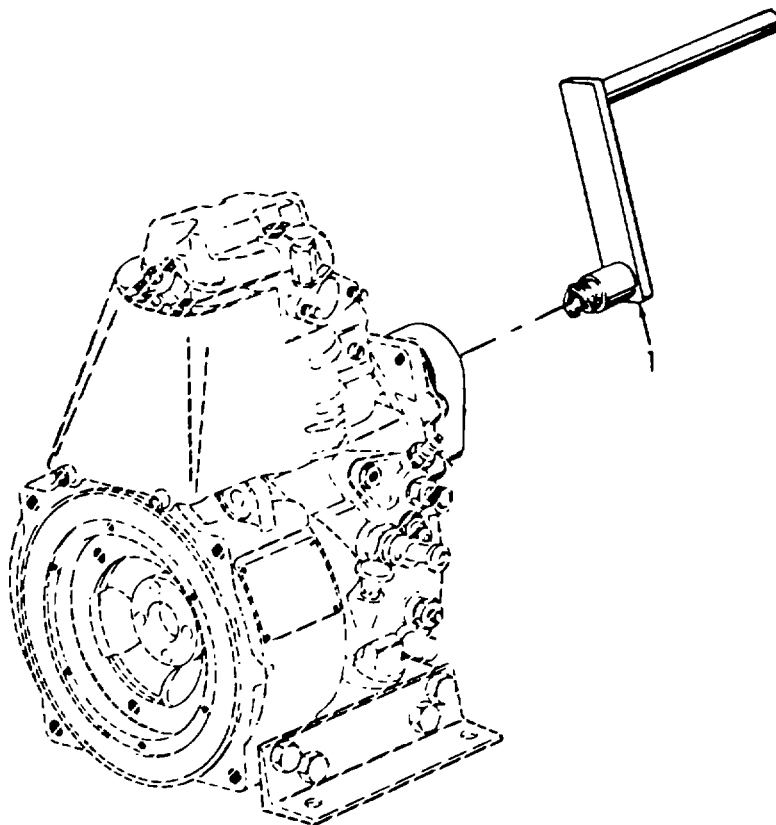

Figure 4-11. Crank Assembly Removal/Installation.
- a. Removal. (Refer to figure 4-11).